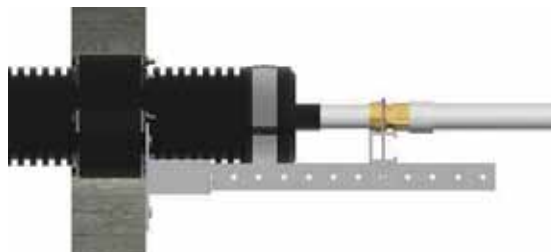

Figure 5: Compression Wall Seal
The Compression Wall Seal creates a watertight seal between the core drill surface and the outer jacket of the Ecoflex pipe (see **Figure 5**).
- Compression Wall Seal (See **Figure 5**)